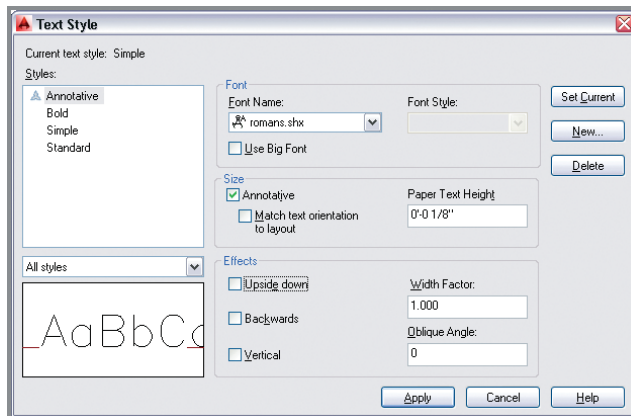

FIGURE 15.6 Setting the height of the Annotative text style
2. Type **ST** (for Style), and press Enter. Select the Annotative style in the Styles list on the left side of the Text Style dialog box. Select romans.shx in the Font Name drop-down menu. Type **1/8"** (or **0.30 cm**) in the Paper Text Height box (see Figure 15.6). Click Apply, select Set Current, and then click Close.